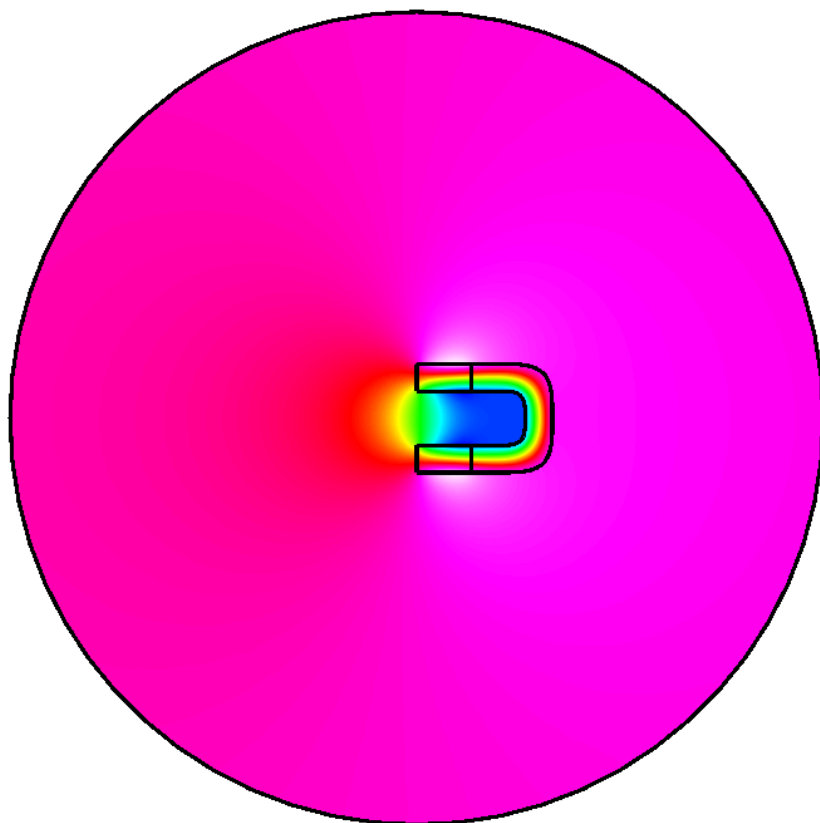

Figure 15.2: The vector potential of the magnetic field.
The resulting z-component of the vector potential is depicted in Figure 15.2. The corresponding postprocessed magnetic field intensity is depicted in Figure 15.3. Note that the derived fields is enforced to be continuous by default which is not optimal for visualization. For optimal results use Discontinuous Galerkin (DG) method for the postprocessing. Note that when using DG the postprocessing should be done with .vtu files and Paraview. The postprocessing tools of Elmer cannot deal with elementwise-fields.